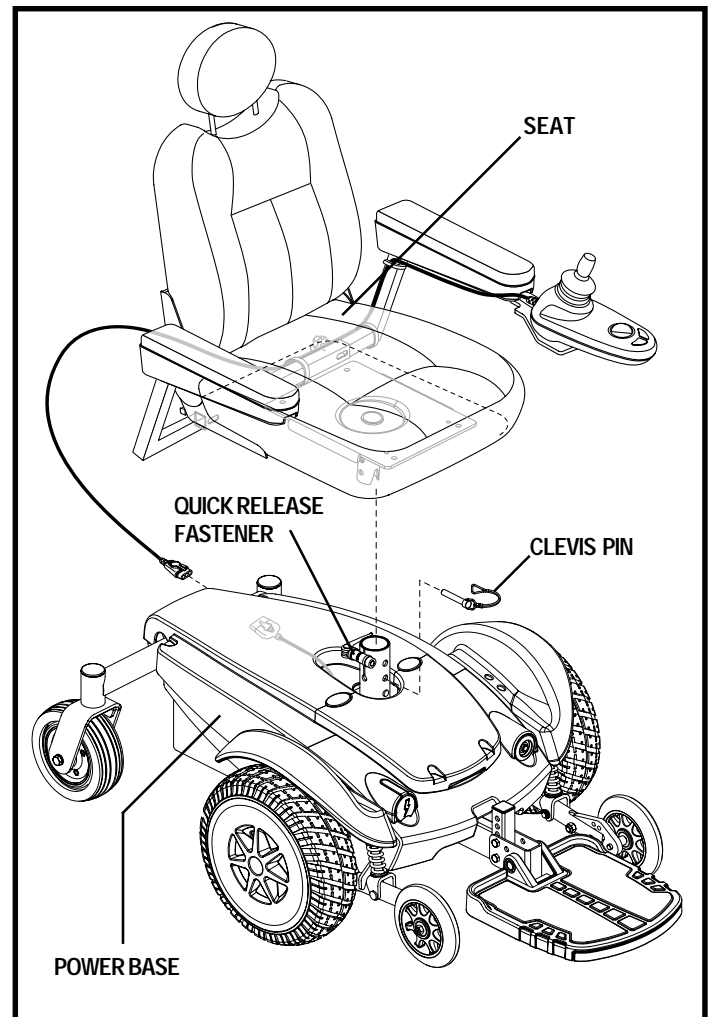

Figure 12. Seat Height Adjustment
3. Loosen the quick-release fastener. See figure 12.
4. Remove the seat. See figure 12.